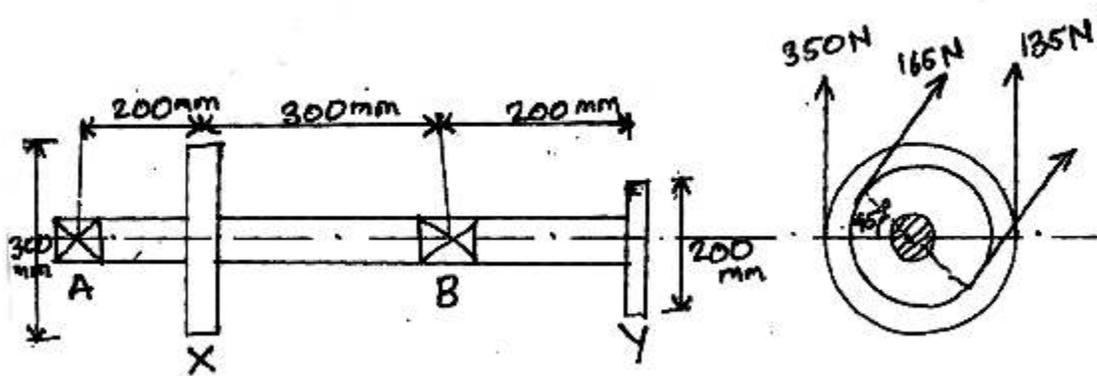

Fig. 2
3. (a) A steel shaft made of 40C8 is used to drive a machine. The pulleys X, Y and bearing A and B are located as shown in Fig. 2. Belt tensions are also shown in Fig. 2. Determine the diameter of the shaft using A.S.M.E. code. Yield strength of shaft material is 330 N/mm^2 and ultimate tensile strength is